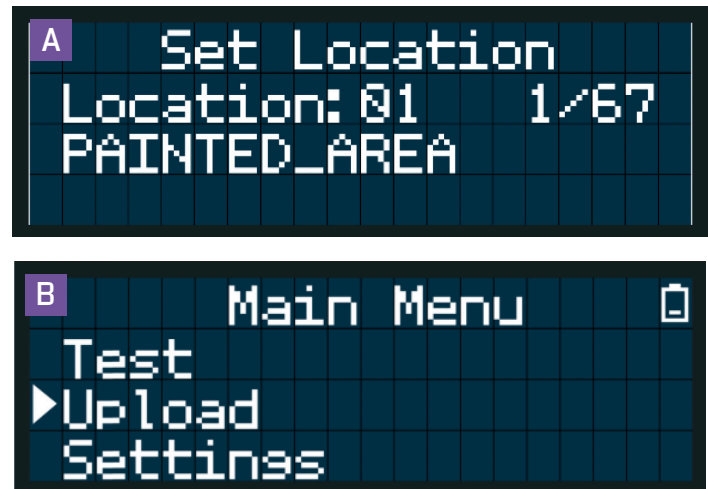

Figure 5. (a) Testing location and field marker type showing a painted area to be tested and (b) upload data screen.
5. Ensure the device is set to drop in the appropriate **Field Marker Type** (Figure 5);
- Once all field locations are tested, select **Upload** in the **Main Menu** (Figure 5).